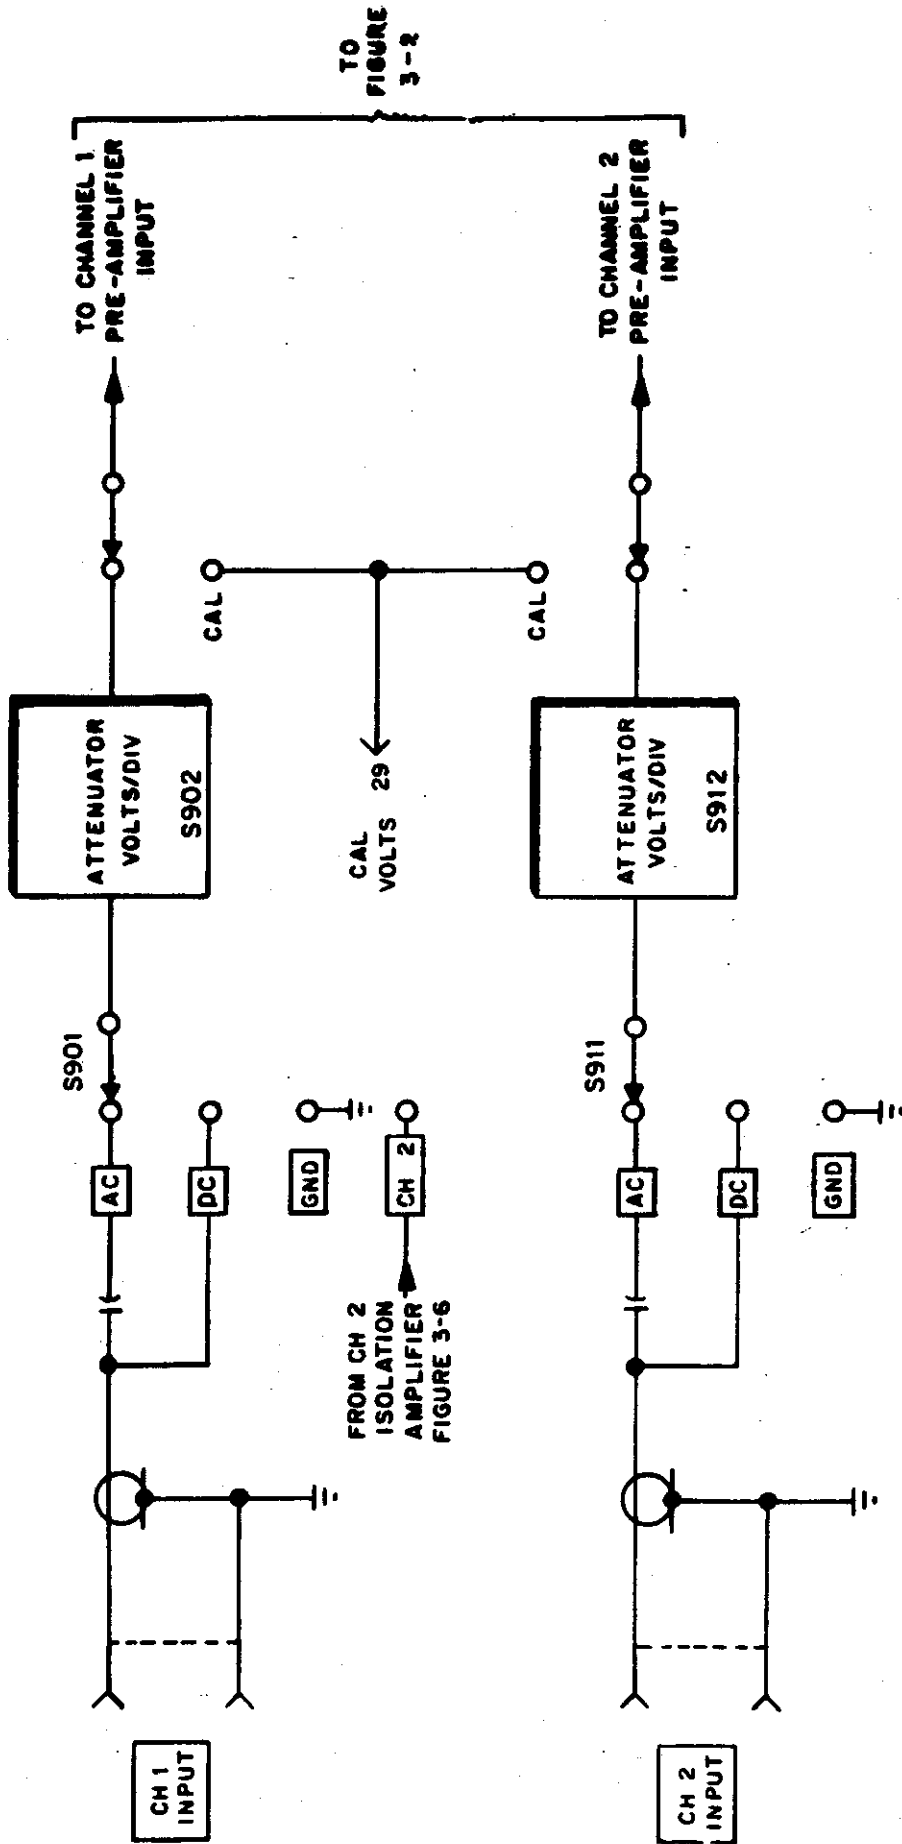

FIGURE 3-1. TYPE 79-02A INPUT CIRCUIT, SIMPLIFIED FUNCTIONAL BLOCK DIAGRAM
- Figure 3-1. Type 79-02A Input Circuit, Simplified Functional Block Diagram